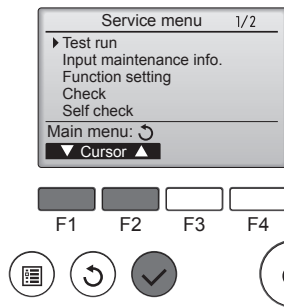

Fig. 5-3
- ③ Select "Test run" with the **[F1]** or **[F2]** button, and press the button. (Fig. 5-3)